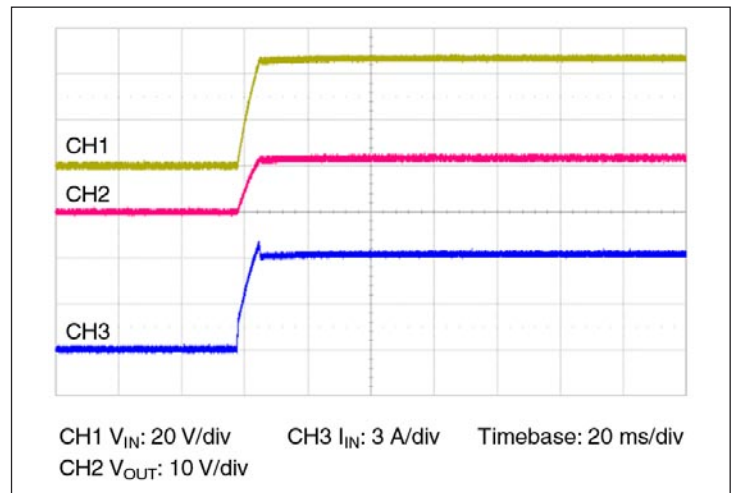

Figure 10 — Start up from application of V_{IN}; VC pre-applied C_{OUT} = 375 μF
- **Normal operation (VC applied prior to V_{IN}):** In this case the controller is active prior to ramping the input. When the input voltage is applied, the VTM module output voltage will track the input (See Figure 10). The inrush current is determined by the input voltage rate of rise and output capacitance. If the VC voltage is removed prior to the input reaching 26 V, the VTM may shut down.